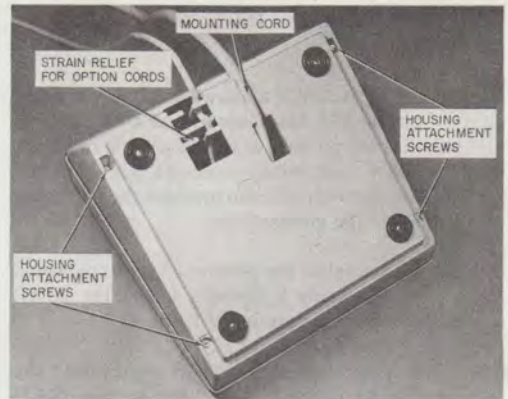

Fig. 42—Basic Satellite Desk Set, Bottom View
- (6) Plug one end of the D8W cord into the modular jack installed in (5).
- (7) Run the other end of the cord through the option cord opening in the lower housing (Fig. 42).
- (8) Reassemble the lower housing to the telephone set.
- (9) Secure the D8W cord around the strain relief bars.
(p) Reassemble lower housing to the telephone set (paragraph 5.15). Secure the speakerphone cord around the strain relief bars in the lower housing (Fig. 42).
- Reassemble the telephone. Secure the cord around the strain relief bars in the lower housing (Fig. 42). Excess cordage can be tucked into the telephone set.